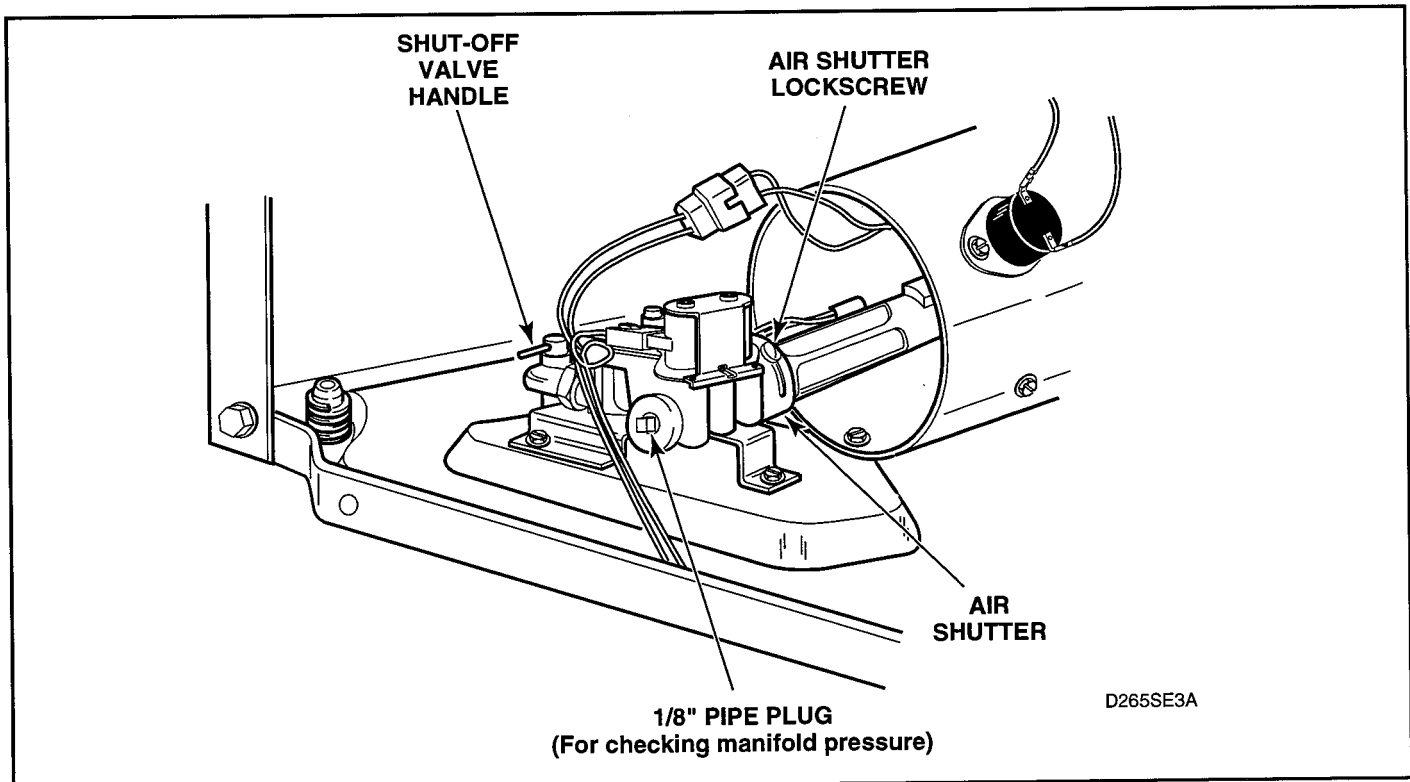

Figure 6-2
- Allow the dryer to operate for approximately five minutes, then loosen the air shutter lockscrew. See figure 6-2.
- After proper flame is obtained, tighten air shutter lockscrew securely. See figure 6-2.